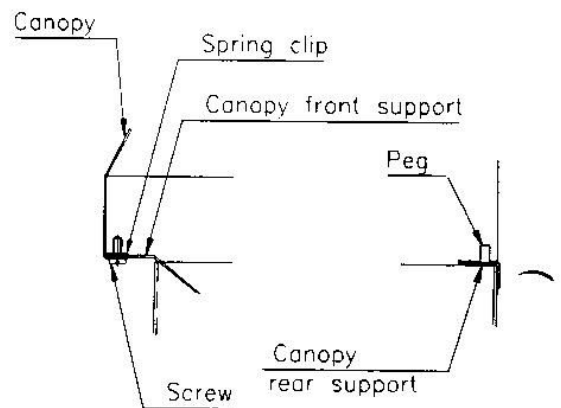

Fig. 17 Fitting the canopy
2. Remove the two screws from the canopy front support (see Fig. 17)